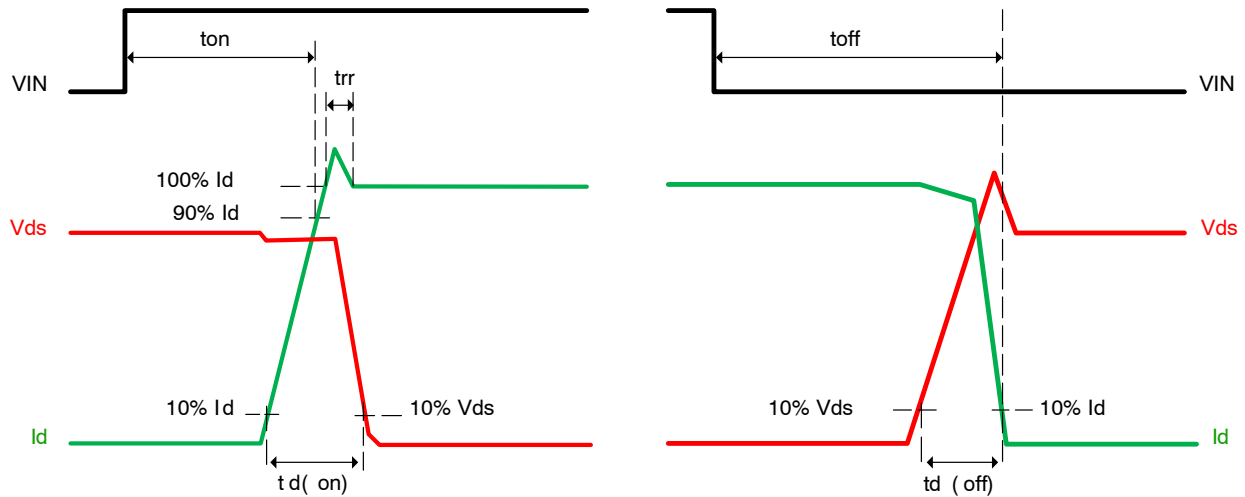

Figure 4. Switching Time Definitions
4. ton and toff include the propagation delay of the internal drive IC. tc(on) and tc(off) are the switching times of MOSFET under the given gate-driving condition internally. For the detailed information, please see Figure 4.